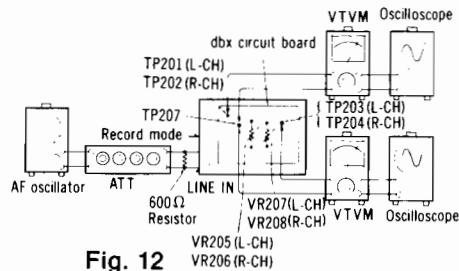
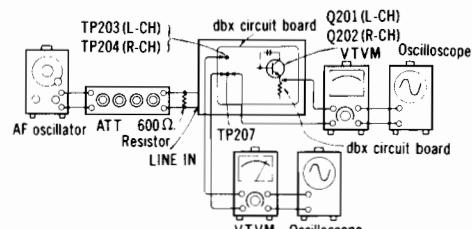

Fig. 12
Fig. 14
<p>Equipment:</p> <ul style="list-style-type: none"> * VTVM * AF oscillator * ATT * Oscilloscope * Resistor (600Ω) * Test tape (reference blank tape) <ul style="list-style-type: none"> ... QZZCRA for Normal ... QZZCRX for CrO₂ ... QZZCRZ for Metal 	<p>3. Input a 1kHz, -24 dB signal through LINE IN.</p> <p>Place the set in record mode.</p> <p>4. Fine adjust the attenuator to obtain 0.7V LINE OUT output.</p> <ul style="list-style-type: none"> * Make sure that the input signal level is -24 ± 4 dB with 0.7V output voltage. <p>5. Adjust the attenuator to reduce the input signal level by 20dB.</p> <p>6. Adjust the AF oscillator to generate 50Hz, 100Hz, 200Hz, 500Hz, 1kHz, 4kHz, 8kHz, 10kHz and 12.5kHz signals, and record these signals on the test tape.</p> <p>7. Playback the signals recorded in step 6, and check if the frequency response curve is within the limits shown in the overall frequency response chart for normal tapes (fig. 10).</p> <p>(If the curve is within the charted specifications, proceed to steps 8, 9, 10 and 11.)</p> <p>If the curve is not within the charted specifications, adjust as follows:</p> <p>Adjustment A:</p> <p>When the curve exceeds the overall frequency response chart specifications (fig. 10) as shown in fig. 12.</p>  <p>Fig. 12</p> <p>1) Increase bias current by turning VR13 (L-CH) and VR14 (R-CH). (See fig. 1 on page 5).</p> <p>2) Repeat steps 6 and 7 to confirm. (Proceed to steps 8, 9, 10 and 11 if the curve is now within the charted specifications in fig. 10.)</p> <p>3) If the curve still exceeds the specifications (fig. 10), increase bias current further and repeat steps 6 and 7.</p> <p>8. Place UNIT into CrO₂ tape mode.</p> <p>9. Change test tape to QZZCRX, and record 50Hz, 100Hz, 200Hz, 500Hz, 1kHz, 4kHz, 8kHz, 10kHz and 12.5kHz signals. Then playback the signals and check if the curve is within the limits shown in the overall frequency response chart for CrO₂ tapes (fig. 14).</p> <p>Adjustment B:</p> <p>When the curve falls below the overall frequency response chart specifications (fig. 10) as shown in fig. 13.</p>  <p>Fig. 13</p> <p>1) Reduce bias current by turning VR13 (L-CH) and VR14 (R-CH).</p> <p>2) Repeat steps 6 and 7 to confirm. (Proceed to steps 8, 9, 10 and 11 if the curve is now within the charted specifications in fig. 10.)</p> <p>3) If the curve still falls below the charted specifications (fig. 10), reduce bias current further and repeat steps 6 and 7.</p> <p>Overall frequency response chart (CrO₂, Metal)</p>  <p>Fig. 14</p>
<ul style="list-style-type: none"> * Noise reduction selector <ul style="list-style-type: none"> ... disc dbx tape <p>Equipment:</p> <ul style="list-style-type: none"> * VTVM * AF oscillator * ATT * Oscilloscope * Resistor (600Ω) 	<p>③-1 Standard level adjustment in dbx Encode mode</p> <ol style="list-style-type: none"> 1. Make the connection as shown in fig. 12 and apply 1kHz – 27dB signal from LINE IN, and set the noise reduction selector to dbx tape position. 2. Set unit to record mode, adjust ATT so that the signal level at TP201 (L-CH) and TP202 (R-CH) is 300mV. 3. Adjust VR205 (L-CH) and VR206 (R-CH) so that the output signal level at TP203 (L-CH) and TP204 (R-CH) becomes $300\text{mV} \pm 0.5\text{dB}$. <p>③-2 Standard level adjustment in dbx Decode mode</p> <ol style="list-style-type: none"> 1. Make the connection as shown in fig. 12 and apply 1kHz – 27dB signal from LINE IN, and perform the following adjustments. 2. Set the noise reduction selector to disc position, and adjust ATT so that the signal level at TP201 (L-CH) and TP202 (R-CH) becomes 300mV. 3. Adjust VR207 (L-CH) and VR208 (R-CH) so that the output signal level at TP203 (L-CH) and TP204 (R-CH) becomes $300\text{mV} \pm 0.5\text{dB}$. <p>NOTES:</p> <ul style="list-style-type: none"> • After adjustments ①, ② and ③, re-check according to "dbx SYSTEM CHECKING METHOD". • If the specifications are not satisfied, perform the adjustments again.
<p>3 Operation check of INPUT BAND PASS FILTER circuit (27Hz—20kHz)</p> <p>Condition: * Record mode * Input level controls ... MAX * Noise reduction selector ... dbx tape</p> <p>Equipment: * VTVM * AF oscillator * ATT * Oscilloscope * Resistor (600Ω)</p>	<p>NOTE:</p> <ul style="list-style-type: none"> If no abnormality is found in steps 1 and 2, check the operation for each part as follows: <p>4 Operation check of VCA circuit and Pre-emphasis/De-emphasis circuit</p> <p>Condition: * Stop/record mode * Input level controls ... MAX * Noise reduction selector ... disc/dbx tape</p> <p>Equipment: * VTVM * AF oscillator * ATT * Oscilloscope * Resistor (600Ω)</p> <p>1. Make the connections as shown in fig. 14, and apply 100Hz — 27dB signal from LINE IN, and set the noise reduction selector to dbx tape position. 2. Set the unit to record mode. 3. Adjust ATT so that the signal level at TP201 (L-CH) and TP202 (R-CH) is 300mV. 4. Make sure that the emitter signal level of Q203 (L-CH) and Q204 (R-CH) is 300mV. 5. Set the input signal frequency to 5kHz and make sure that the emitter signal of Q203 (L-CH) and Q204 (R-CH) remains at the same level (300mV).</p>